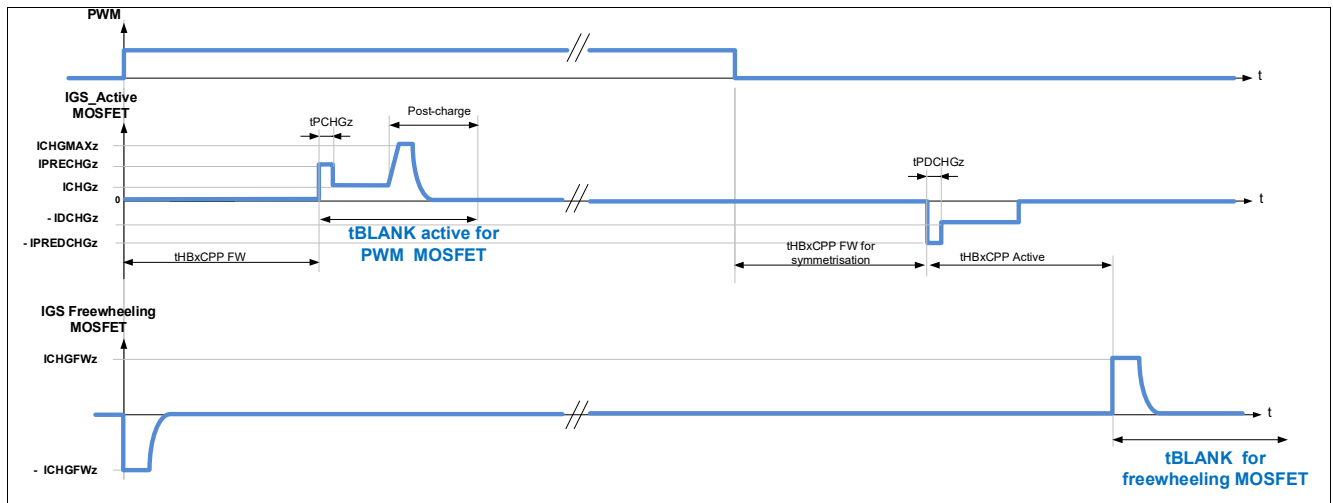
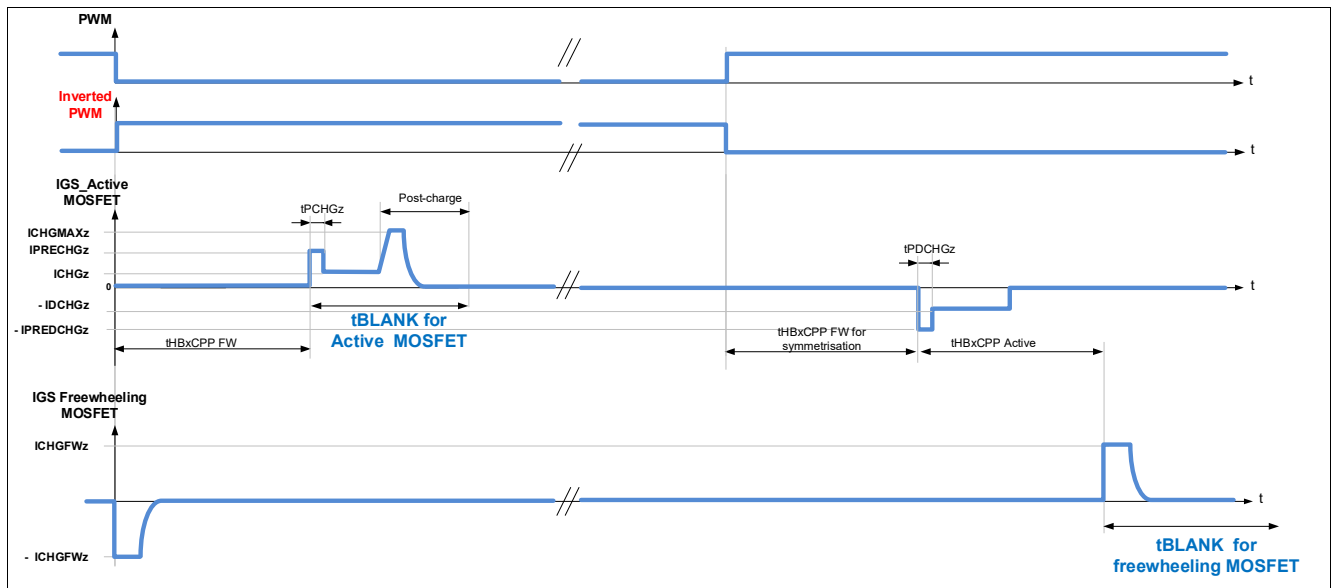

Figure 34 Blank time for half-bridges in PWM operation, detection of generator mode enabled ($EN_GEN_CHECK = 1$), motor operating as load
Figure 35 Blank time for half-bridges in PWM operation, detection of generator mode enabled (EN_GEN_CHECK = 1), motor operating as generator
- The blank time of the Active MOSFET starts at the expiration of the cross-current protection time of the FW MOSFET (t_{HBxCCP} FW). Refer to **Figure 34** and **Figure 35**.
- The blank time of the FW MOSFET starts after expiration of the cross-current protection time at turn-off of the Active MOSFET (t_{HBxCCP} Active). Refer to **Figure 34** and **Figure 35**.